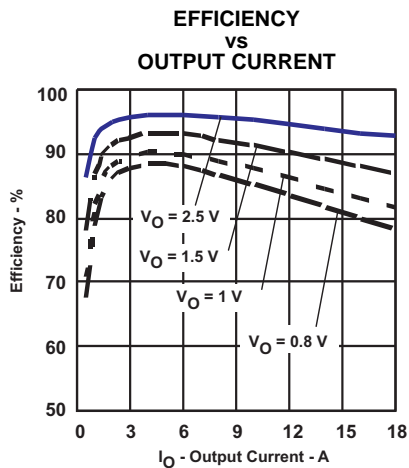
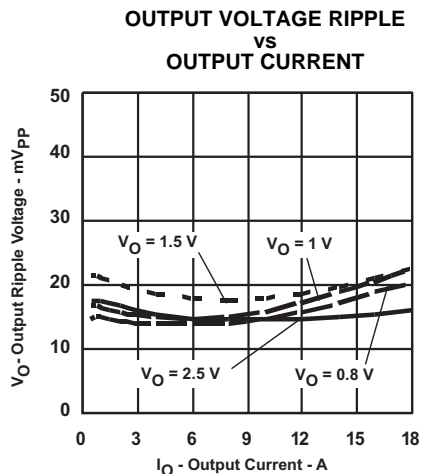
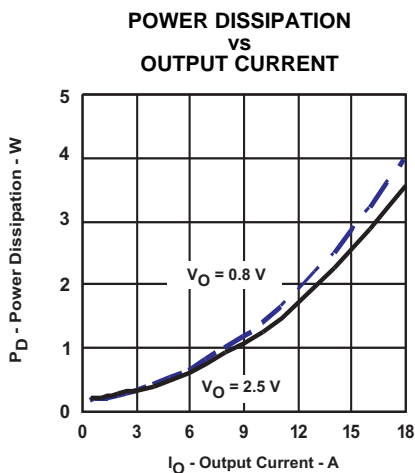

Figure 1.
Figure 2.
Figure 3.
- (9) The electrical characteristic data has been developed from actual products tested at 25C. This data is considered typical for the converter. Applies to Figure 1, Figure 2, and Figure 3.